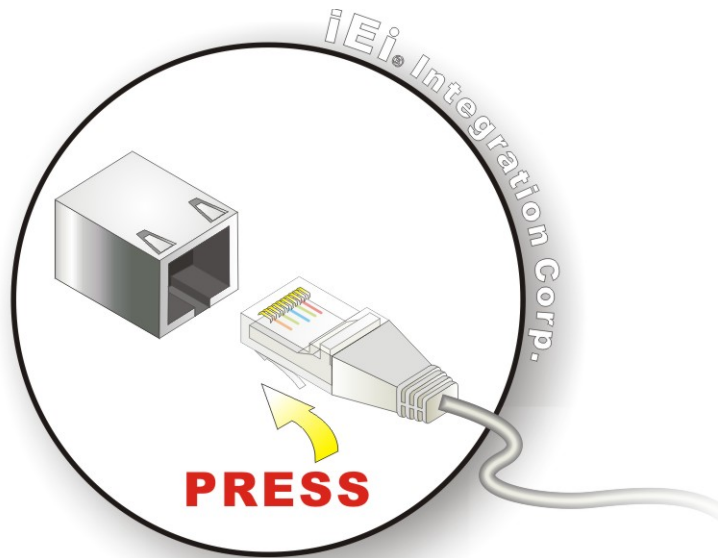

Figure 3-16: LAN Connection
Step 2: Align the connectors. Align the RJ-45 connector on the LAN cable with one of the RJ-45 connectors on the TANK-870AI series. See **Figure 3-16**.